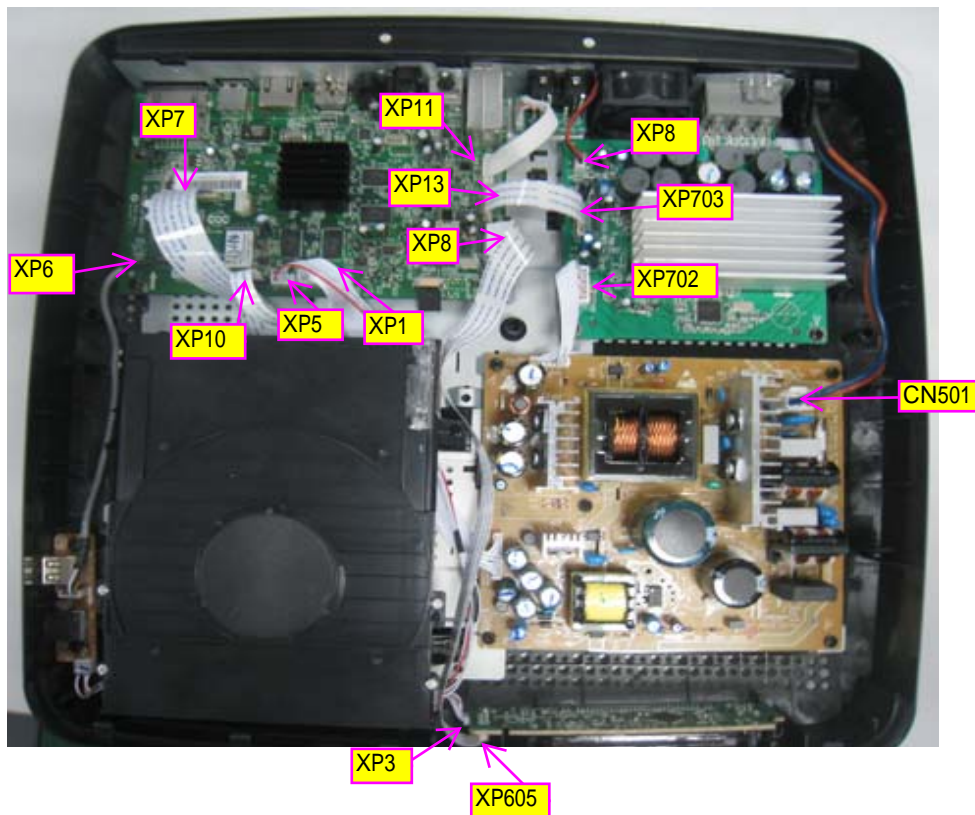

Figure 4
Step4 :Dismantle Front Control Board,disconnect 2 connectors(XP605,XP3).(Figure 4)
Step5 :Dismantle Loader,disconnect 3 connectors(XP5,XP7,XP10) and remove 2 screws that connects the loader and the bottom plate.(Figure 4- Figure5)
Step6 :Dismantle Main Board,disconnect 5 connectors(XP1,XP6,XP8,XP11,XP13) and remove 7 screws.(Figure4-Figure5)
Step7:Dismantle Power Board,disconnect 2 connectors(XP702,CN501) and remove 5 screws.(Figure4-Figure5)
Step8:Dismantle Amplifier Board,disconnect 2 connectors(XP8,XP703) and remove 3 screws.(Figure4-Figure5)
Step9 :Dismantle Karaoke and USB Board,remove 2 screws.(Figure4)
Step10:Dismantle Fan,remove 2 screws.(Figure4)
Step11 :Dismantle KUX Input Board,remove 1 screws.(Figure4)